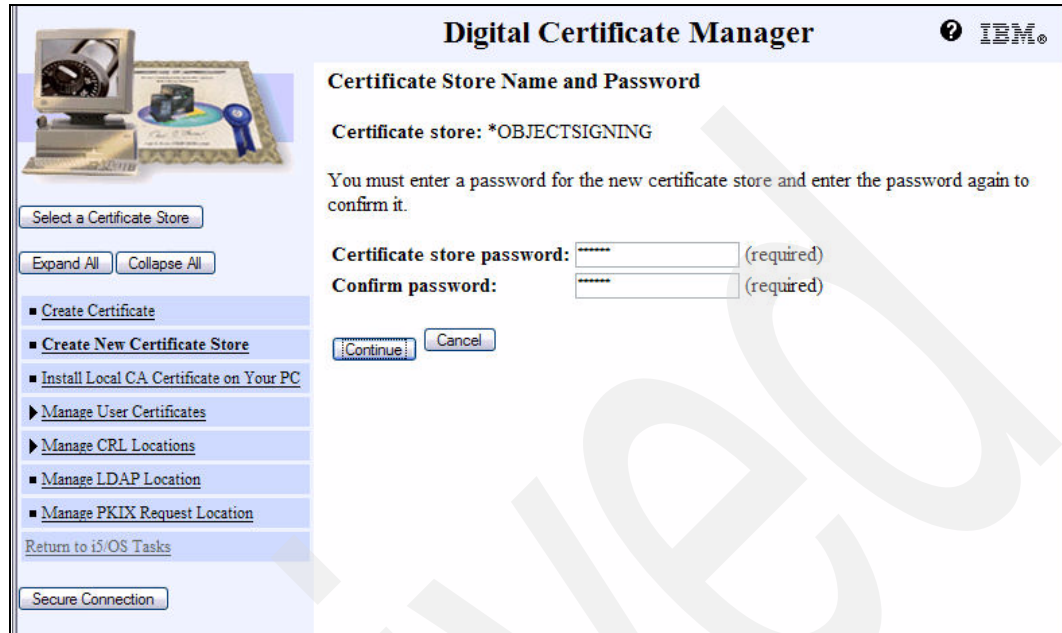

Figure 7-39 DCM Certificate Store Name and Password screen
- After clicking **Continue**, specify a password for the new *OBJECTSIGNING certificate store as shown Figure 7-39.